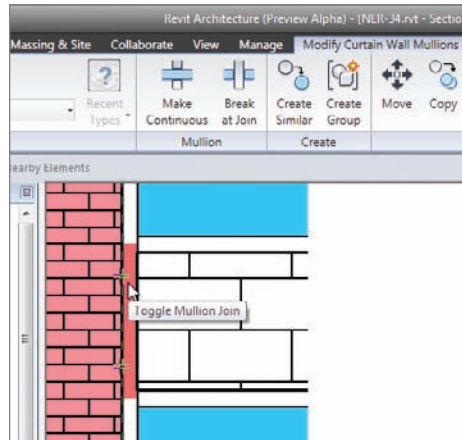

FIGURE 16.37 Selecting the mullion
1. Zoom into an area where the CMU meets the brick, as shown in Figure 16.37.
3. With the mullion selected, notice you can either modify the join (as shown in Figure 16.37) or you can press the Delete key and remove the mullion. In this case, delete the mullion. Repeat the procedure for other similar areas.